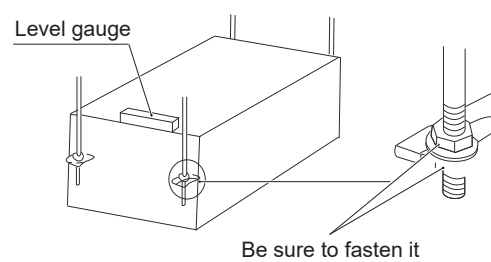

Fig.5-7
3. Use the level gauge to confirm the horizontality of the unit. (Prevent slanting towards the non-drainage side; slanting slightly towards the drainage side is preferable) See Fig.5-7.